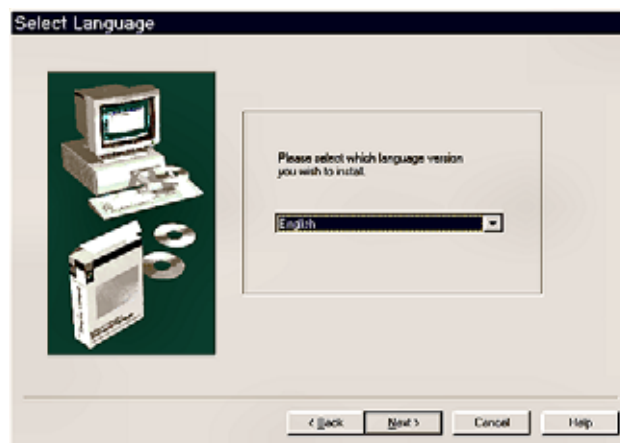

Figure 7-2: Select Language Screen
4. The *Select Language* screen (Figure 7-2) appears. Select a language, then click **Next** to continue or **Cancel** to exit.